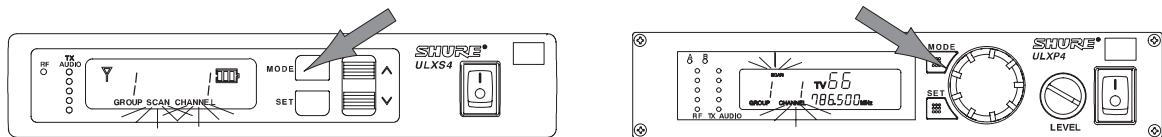

FIGURE 9
- To enter the Scan Mode, press the MODE button on the receiver once. SCAN CHANNEL will flash on the display, as shown in Figure 9.